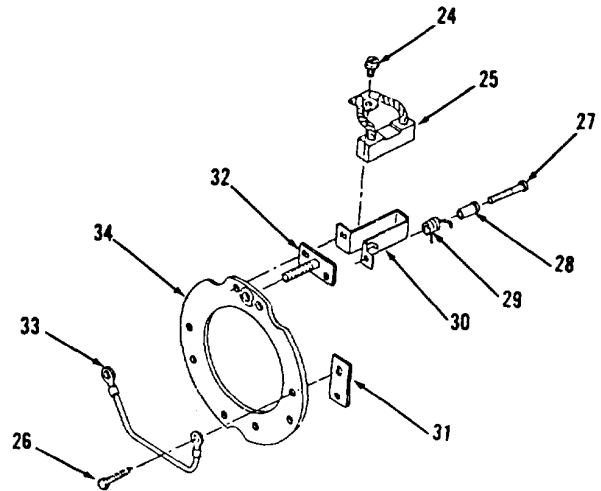
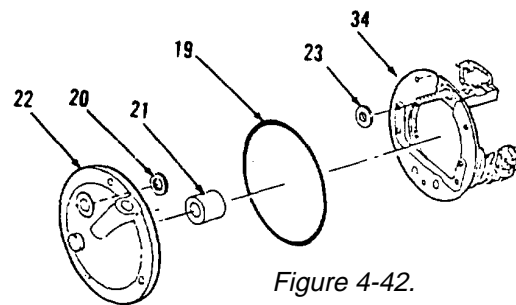

Figure 4-43.
Figure 4-42.
20. Install plate with stud (32), brush holder (30), insulator (33), screw (27), spring guide (28), spring (29), insulator (33) and screw (26) on plate (34, Figure 4-43).
21. Install plate (31), brush holder (30), screw (27), spring guide (28), spring (29) and screw (26).
22. Install plate (31), brush holder (30), insulator (33), screw (27), spring guide (28), spring (29) and screw (26).
23. Install plate (31), brush holder (30), screw (27), spring guide (28), spring (29) and screw (26).
24. Install four brushes (25) and two screws (24). When installing four new brushes (25), if necessary, check to be sure brushes (25) ride freely in brush holders (30).
25. Install washer (23) on plate (34, Figure 4-42).
26. Using suitable driver and press, install new bushing (21), if removed, in end frame (22).
27. Install new insulator (20) in end frame (22).
28. Coat new preformed packing (19) with general purpose grease and position on end frame (22).